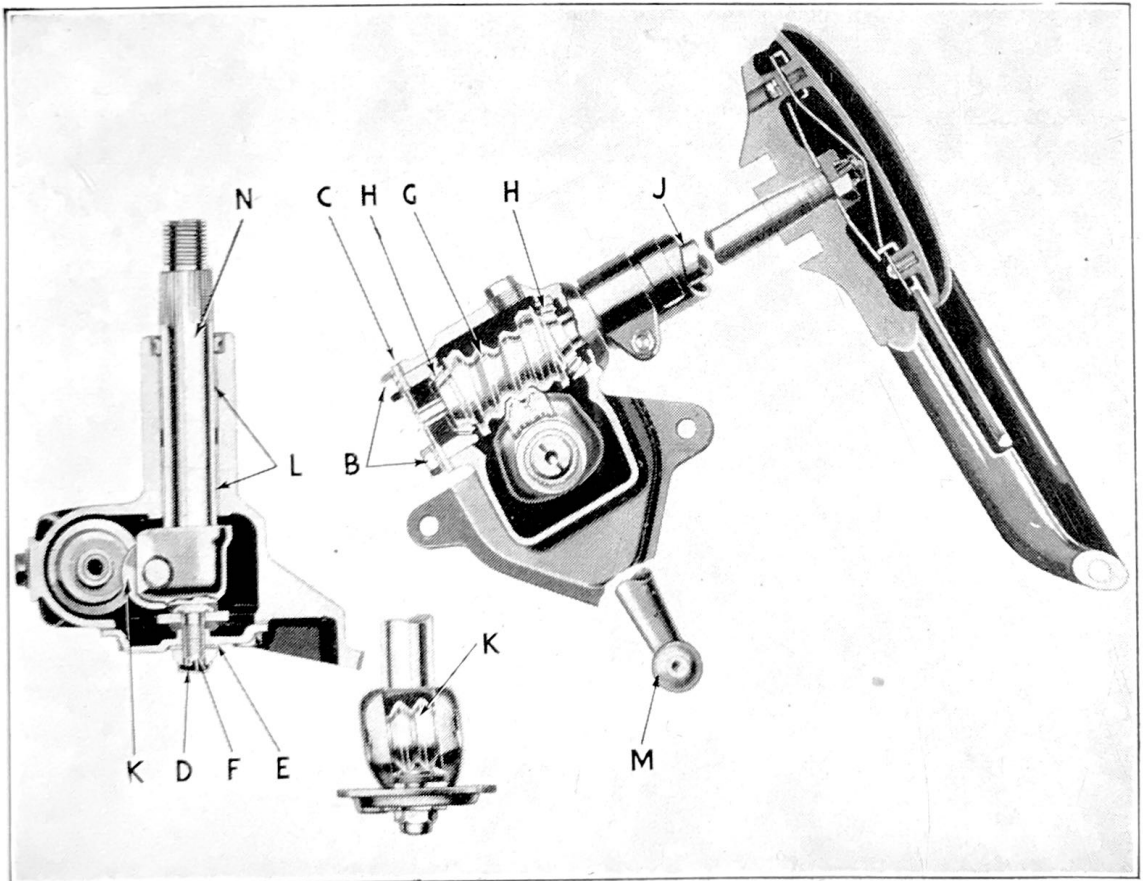

Figure 38
The worm and double roller tooth type steering gear is used on all models. See Fig. 38. The steering gear is mounted on the inside of the left hand frame side member, placing the pitman arm close to the center line of the car. An adjustable drag link connects the pitman arm to the center steering arm mounted on the rear face of the frame front cross member.
The worm (G), Fig. 38, which is pressed on the column tube (J) operates in two adjustable roller bearings (H). The cross shaft roller tooth (K) is mounted on needle roller bearings. On models
proper car handling. Adjustment, if necessary, is made by means of an adjusting screw accessible through an opening in the frame side rail. First remove cap (D), Fig. 38, slide off plate (E) to clear lock boss on gear housing cover. Be sure steering gear is turned to straight ahead driving position (high point on worm) and turn adjusting screw (F) into the housing for closer adjustment. Back off screw just enough to prevent binding. Check for clearance (end play in cross shaft) by grasping pitman arm (M). It is preferable to have a slight amount of play rather than binding. Replace lock plate (E) and cap (D).
Worm Shaft and Bearing Adjustment is necessary to remove excessive column end play, due to too great clearance between worm roller bearings and cups. Proceed by removing four cap screws (B), Fig. 38, (two not shown). Separate shims (C) with sharp knife blade, being careful not to mutilate them. Remove one shim at a time to obtain proper clearance. Check for stiffness by revolving steering wheel. Stiffness is usually attributable to too many shims having been removed or gear is not properly aligned in car.